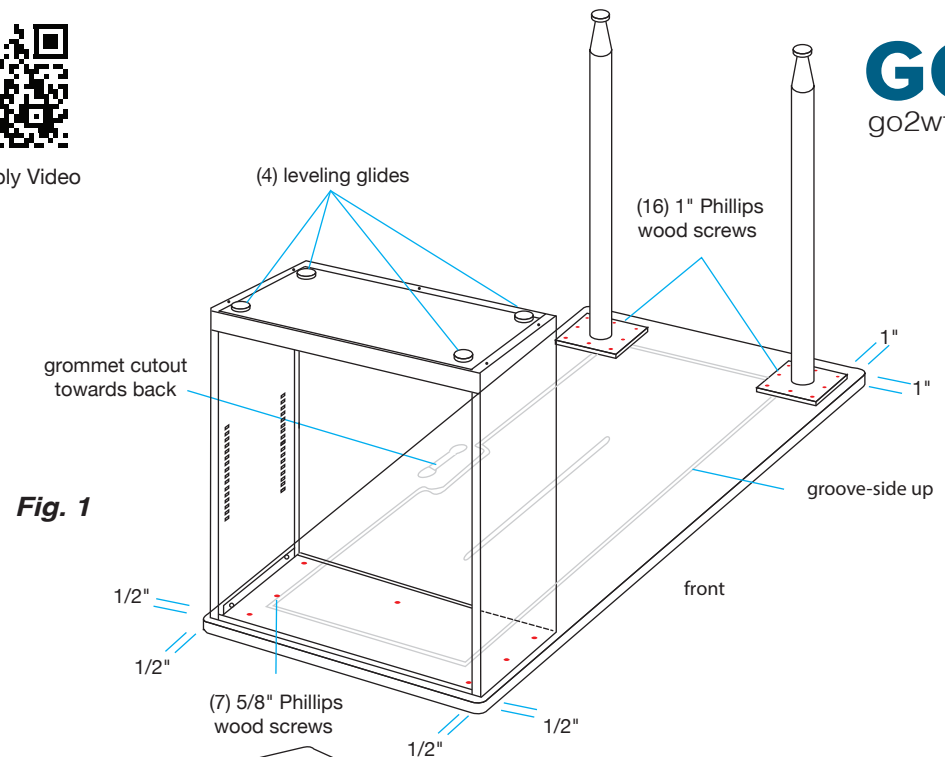

Fig. 1
3. Position each leg 1" inset on two sides and align with predrilled holes. Fasten leg using eight 1" Phillips wood screws. Repeat for other leg. *Fig. 1*
4. Install the four leveling glides in the bottom of the bookcase, turning by hand. *Fig. 1*